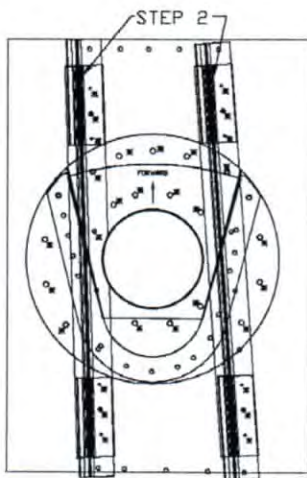

FIGURE 8
p. Install components to aircraft skin as shown on figures 8 & 9. First utilize appropriate length MS20426AD4 rivets to attach doubler and zee section to stringer and dimpled skin, step 1 (excluding scoop and subsequent holes).